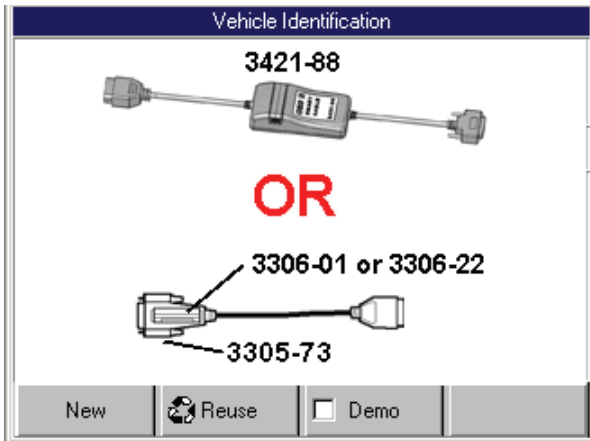

Figure 3.9: Vehicle Information - Required Cables Screen
- b Select the vehicle description to use and press the **ENTER** key. This displays the illustration of the required cables (Figure 3.9 on page 18).